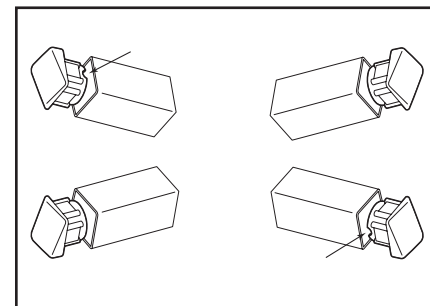

Figure 3: Legs Represented in Open Position
3. Install 1-1/4" Tube Plugs **U** **V** into the bottom of all four legs, as shown in Figure 3. Return unit to upright position.